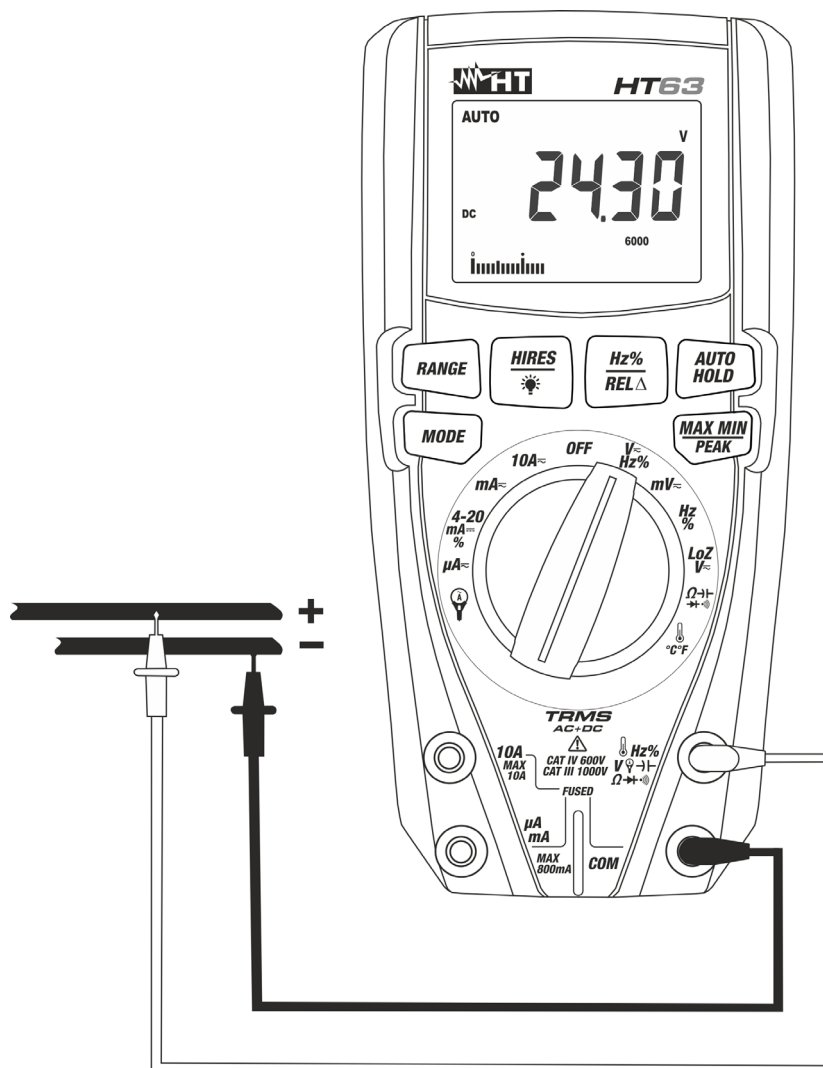

Fig. 2: Use of the instrument for DC Voltage measurement
3. Position the red lead and the black lead respectively in the spots with positive and negative potential of the circuit to be measured (see Fig. 2). The display shows the value of voltage.
5. When symbol "-" appears on the instrument's display, it means that voltage has the opposite direction with respect to the connection in Fig. 2.
4. Position the red lead and the black lead respectively in the desired spots of the circuit to be measured (see Fig. 4) or in the spots with positive and negative potential of the circuit to be measured (see Fig. 2). The display shows the value of voltage.
6. When symbol "**-**" appears on the instrument's display, it means that voltage has the opposite direction with respect to the connection in Fig. 2